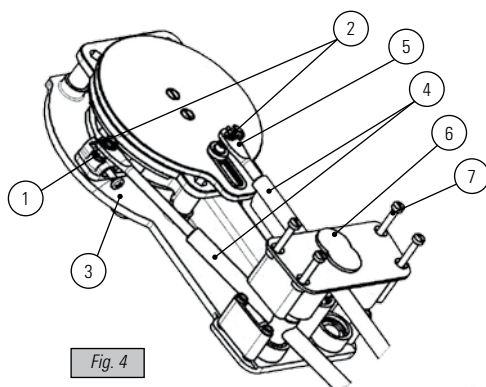

Fig. 4
Insert the inverter stud (1) in the control cable rod eyelet (fig. 4) and fix it with the stop-ring (2). The cable shall be positioned in the "E" or "F" set (fig. 2), according to the direction of installation of the controller. Travel of the cable can be changed by moving the cable end between "C" position (short stroke) and "D" position (long stroke) (fig. 2). Fasten the stud with one M4x18 screw (3)
Insert the cable in the throttle stud (5) and fix it with the stop-ring (2) (fig.4). Position the cable in position "A". Check the installation by moving the lever forward and backward, and verify that cables allow all the available stroke. Adjust stroke by screwing or unscrewing the cable end (7).
Insert the cable lock (6), making sure that the cable barrels are properly positioned in their seats. Fix the cable lock with 4 M4x40 screws (7) (fig. 4). Move the lever backward and forward to check that cables are properly installed and operating.